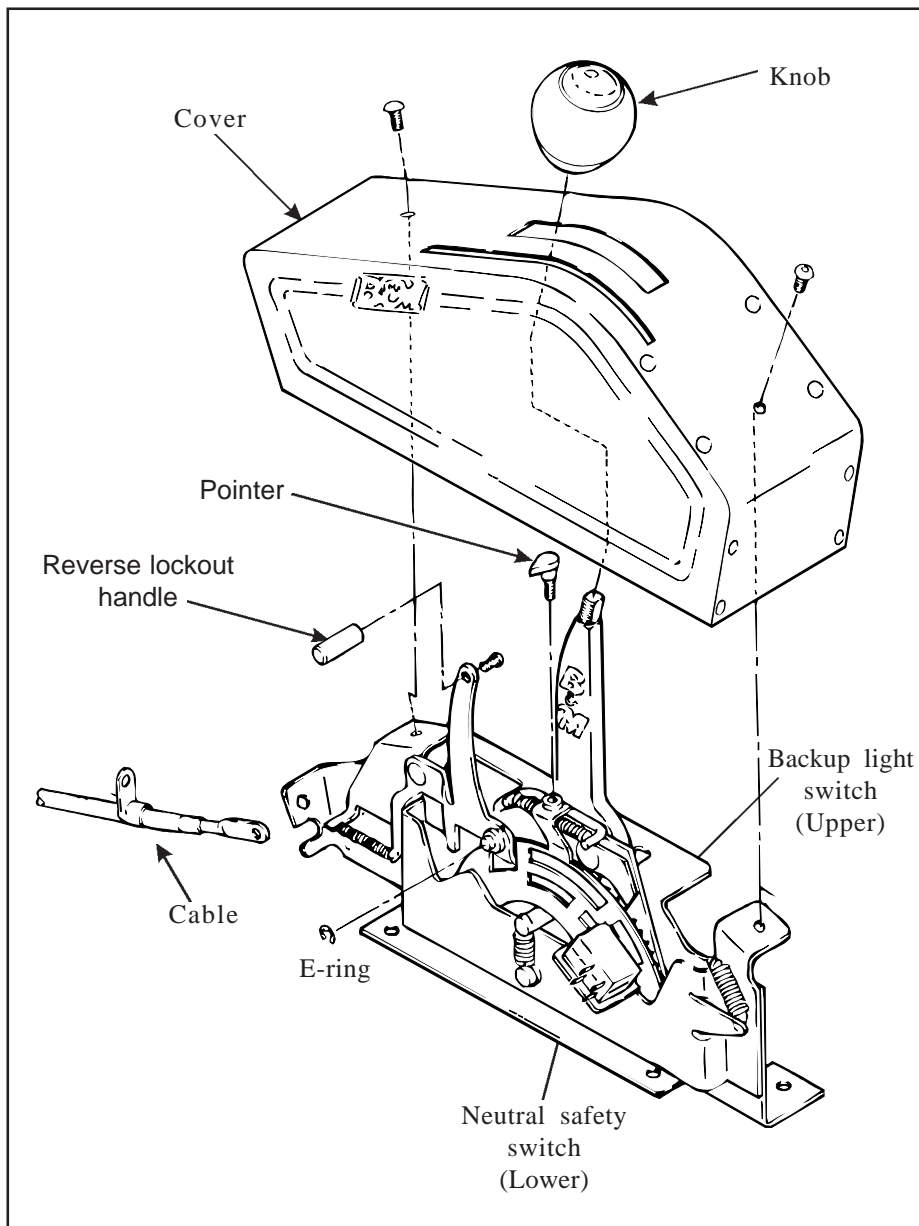

Figure 1
STEP 5. Install the cable on shifter as shown in **figure 1**. The cable attachment tab should be bolted to the outside surface of the shifter base using 1/4" X 1/2" bolt, lock washer and nut. Install E-Ring to secure the cable.
STEP 6. Install the backup light switch and the neutral safety switch in place on the shifter mechanism. Install using two #4-40 screws, nuts and lock washers, as shown in **figure 1**. If necessary bend the fingers slightly so that they engage the slots. **Beware,** Over tightening the switch attachment screws will crack the switch housings. Adjust switches so that the neutral safety switch (the lower switch) operates in Neutral and Park only and so that the backup light switch (the
neutral safety system you have. If the key will not turn to the Start position unless the stock shifter is in Park or Neutral, you have a mechanical interlock, otherwise you have a neutral safety switch. With either type, disconnect battery ground cable to prevent accidental shorts. If you have a neutral safety switch, locate and identify the neutral safety wires (engine will not crank unless these wires are connected together). Extend the wires from the GM switch to the shifter. Strip 1/4" insulation off the wires and install slip-on terminals supplied in kit. Crimp terminals onto wires using a crimping tool or pliers. Connect the Neutral safety wires to the **LOWER** switch and the backup light wires to the **UPPER** switch, see figure 1. Tape terminal connections and all other connections to prevent shorts.
On the C-4 and C-5 transmissions it is necessary to completely remove the stock Neutral safety/Backup light switch in order to install the **B&M** transmission shift lever. On C-4, C-5 and C-6 transmissions, it will be necessary to hook up the Neutral safety/Backup light switches on the **B&M Pro Ratchet**. Locate and identify the Neutral safety (the engine will not crank unless these wires are connected together), and Reverse light wires. Disconnect Battery ground cable before beginning to wire the Neutral safety and Reverse light switches. Reroute the wires to the **B&M Pro Ratchet**. Strip 1/4" insulation off wires and install supplied slip-on terminals. Crimp terminals onto wires using a crimping tool or pliers. Connect the Neutral safety wires to the **LOWER** switch and the Reverse light wires to the **UPPER** switch, see **figure 1**. Tape terminal connections to prevent shorts. Reconnect battery ground cable, disconnect coil wire and set the parking brake. Check switch operation by attempting to start motor in each shifter
'66-'68: The Neutral safety switch will continue to function normally. It will not be necessary to hook up the Neutral safety switch wires on the shifter. Disconnect the battery ground cable before wiring the Backup light switch. Locate the original Backup Light switch on the steering column or console shifter. Run these wires to the **UPPER** switch on the **B&M Pro Ratchet**, see figure 1. Reconnect ground wire and check light for proper operation. Adjust switches on the shifter if required.